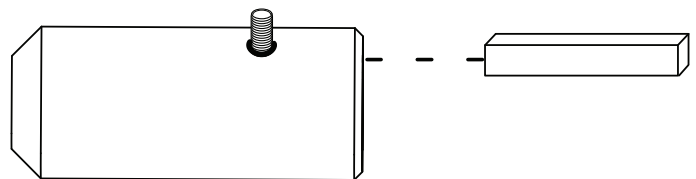

Figure 5. Motor Coupling, Set Screw, and Key
13. Loosen the set screw on the coupling then slide the motor coupling and metal key off of the motor shaft. Discard the key and coupling (Figure 5).